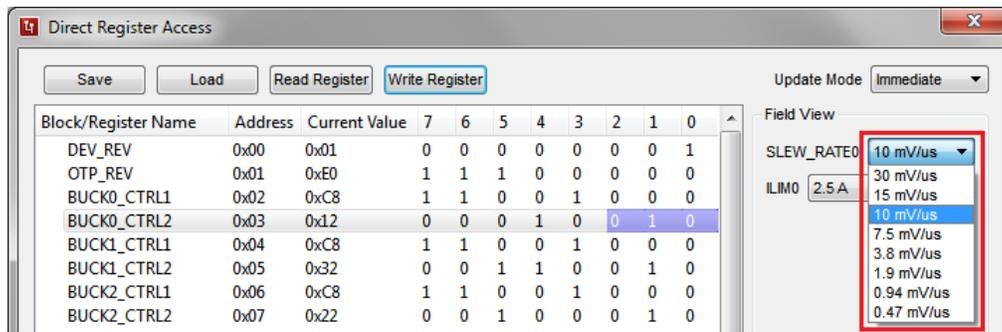

Figure 7. Selecting Value from "Field View"
3. Selecting a new value from the drop-down menus of the "Field View" (Figure 7)